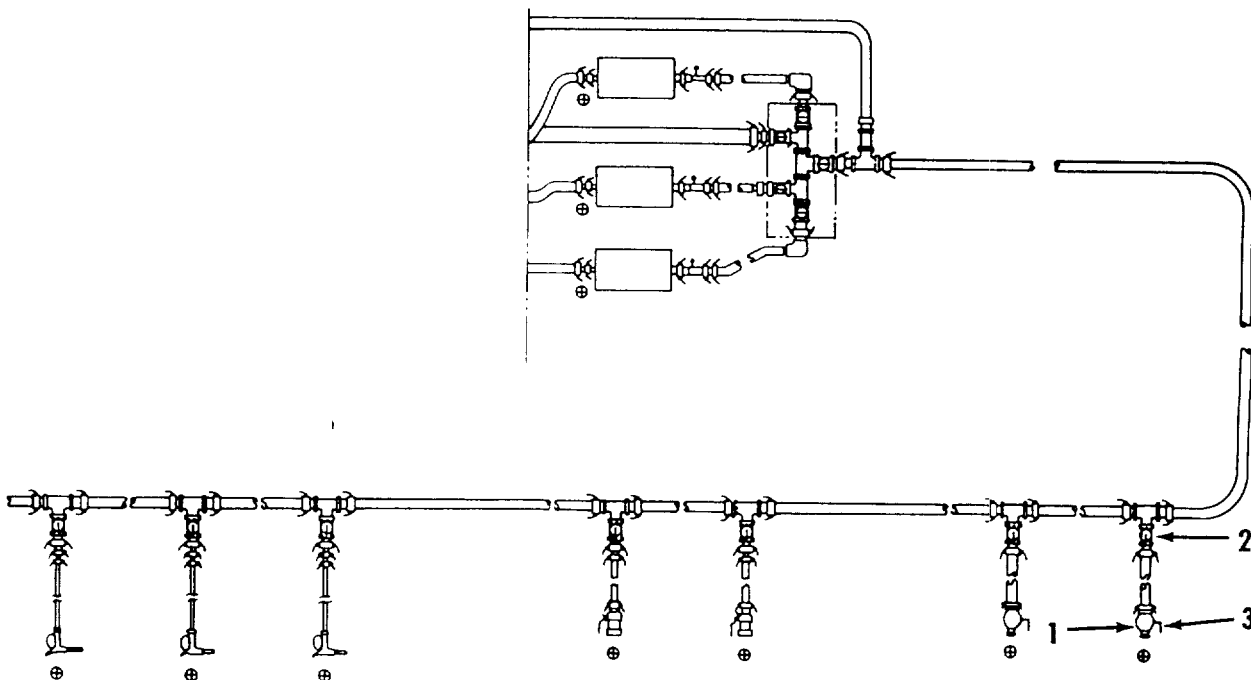

Figure 2-35. Refuel Mode - Bottom Loading Points Distribution.
- (5) Refuel Mode - Bottom Loading Points Distribution. Refer to figure 2-35.